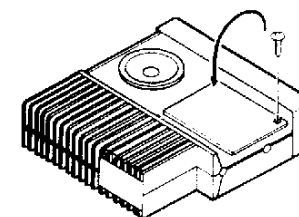

Fig. 5
3. Tighten the screws (Fig. 5).